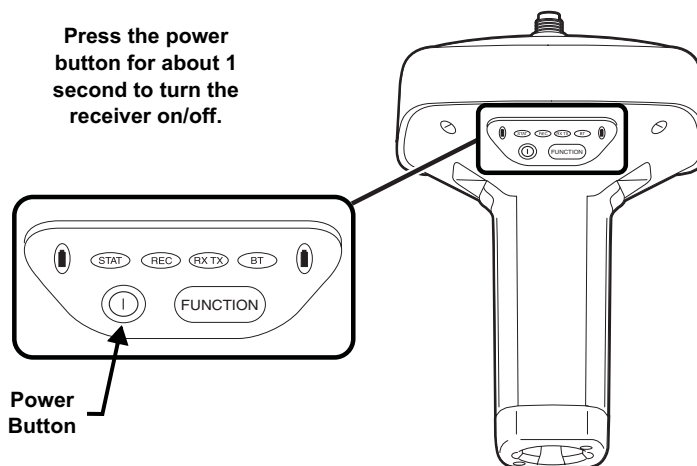

Figure 4-5. Power Button Functions
**To turn on/off the receiver,** press the **power** button (Figure 4-5).